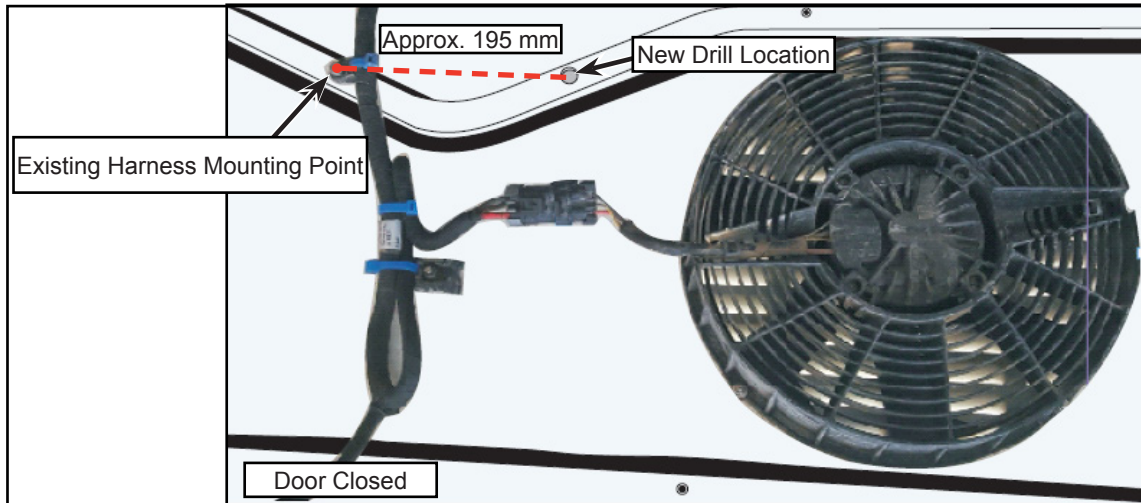

Figure 5 - Typical View of Door Structure
- 1.12. Mark a drill point directly in the middle of the structure beam. Distance between 2 points must be approx. 195mm (see Figure 5).